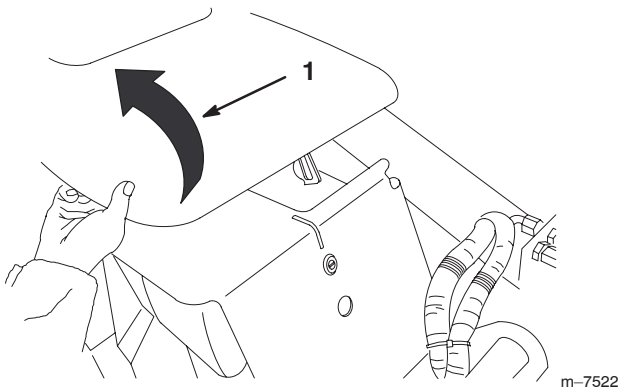

Figure 33
2. Swing the hood up (Fig. 33).